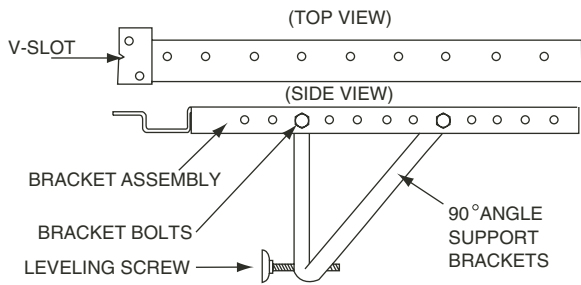

FIGURE 9 — BRACKET ASSEMBLY
10. Attach the mounting brackets (provided) to the angle brackets (provided) using two 1 1/2-in. bolts, lock washers, and nuts (provided). Two bolts are used on each bracket assembly. See Fig. 9. Do not tighten the bolts immediately. It may be necessary to adjust the depth of the bracket assembly, depending on the window sill. Install the 2 leveling screws (provided) onto the bracket assemblies. See Fig. 9.